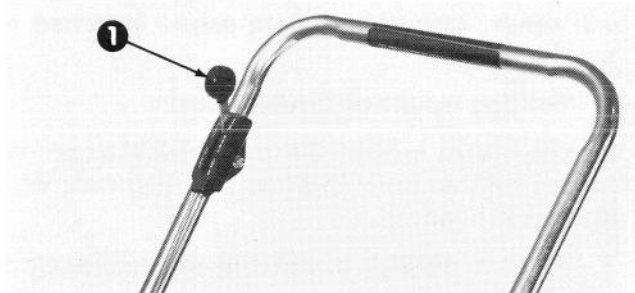

Figure 7
**Throttle Control** ( Fig. 7) – The throttle control is used to stop the engine. The speed of the blade is also controlled by the movement of the throttle. Moving throttle forward increases engine speed and moving it backward decreases engine speed. When control is in START position, engine will run at maximum rpm.
**Drive Control** (Fig. 7) – Drive control on the self-propelled model has two positions: ENGAGE and DISENGAGE. Move control to the left and forward to engage front wheel drive. Pull control